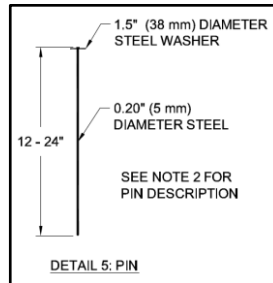

**Figure 4: Initial Channel (IC) Trench Alignment**
- Lay the PYRAMAT panel on the downstream side of the IC trench (Figure 4). Place the panel edge in the IC trench, ensuring full coverage along the bottom of the entire IC trench with the PYRAMAT (Figure 5).